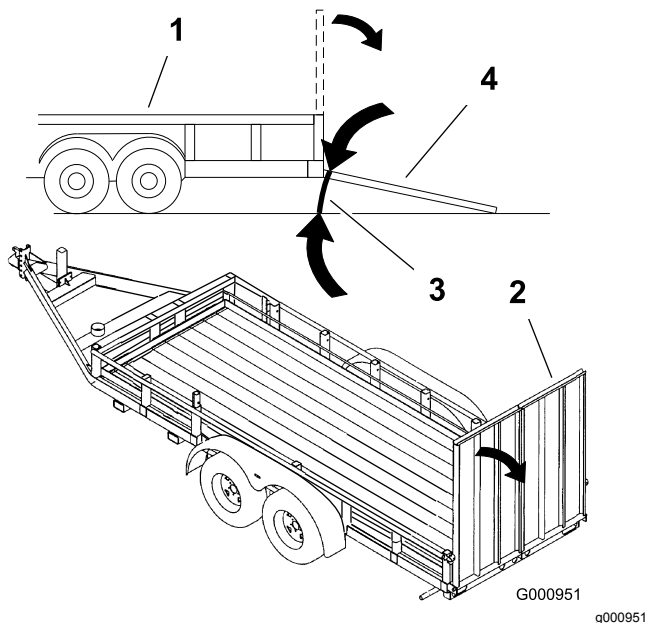

Figure 23
- Use 1 full-width ramp that is wide enough to extend beyond the rear tires instead of individual ramps for each side of the machine (Figure 23). The platform, when down and locked into position, must extend back between the rear wheels and serves as a stop for tipping backward. Having a full-width ramp provides a surface for the platform to contact if the machine starts to tip backward. With the platform up, a full-width ramp provides a surface to walk on behind the machine.
- The ramp should be long enough so that the angles do not exceed 15 degrees (Figure 23). A steeper angle may cause tine components to get caught, as the machine moves from ramp to trailer or truck. A steeper angle may also cause the machine to tip backward. If loading on or near a slope, position the trailer or truck so it is on the down side of the slope and the ramp extends up the slope. This minimizes the ramp angle. The trailer or truck should be as level as possible.